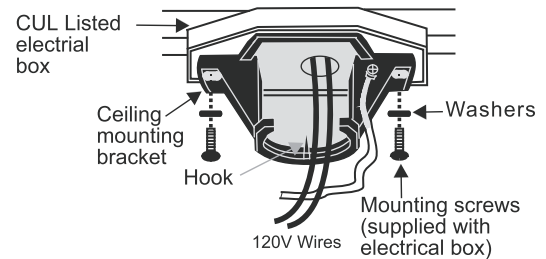

Fig 8
Step 1. Pass the 120-volt supply wires through the center hole in the ceiling hanger bracket as shown in fig 8.